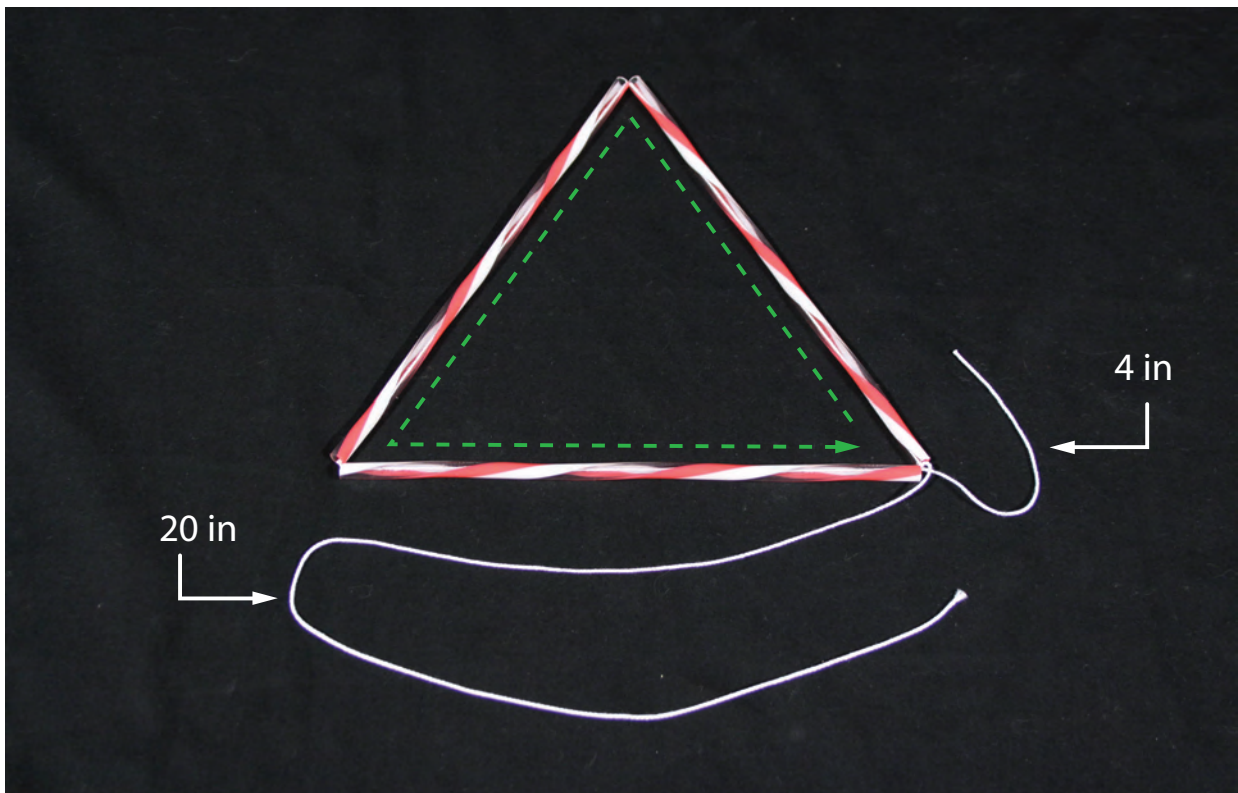

Fig. 2 Triangle
2. First, cut a length of yarn/string four (4) feet long. (If the cut string has not already been provided.)
8. See figure 2 as an example of a tight, three-straw triangle.